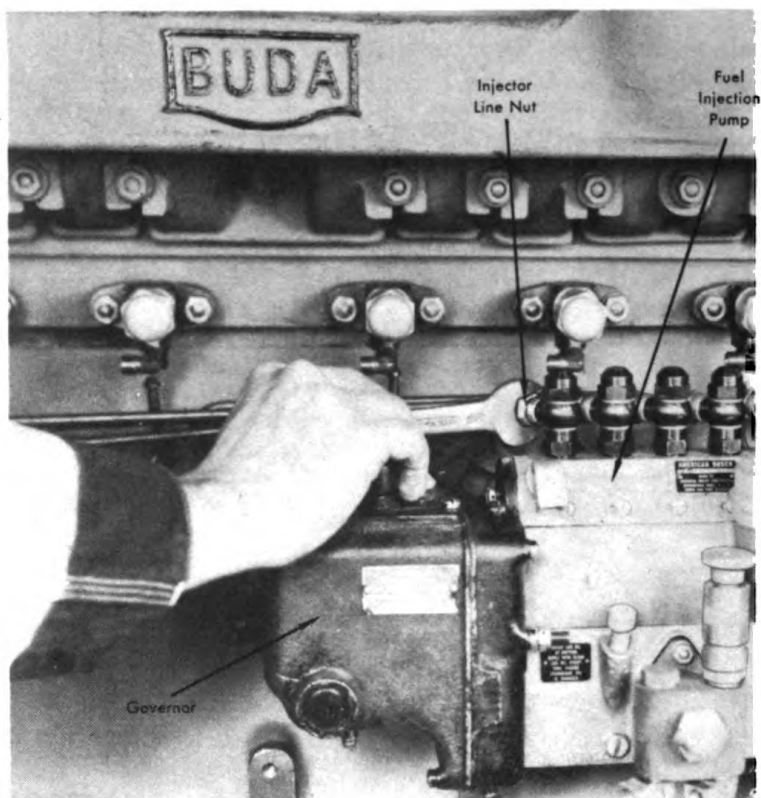

Figure 109. Removing Injector line at Pump.
5. Remove the injection line clamps and unscrew the nuts at the angle connections of the fuel injection pump. See Figure 109. Remove the injector lines at the injector. See Figure 108.